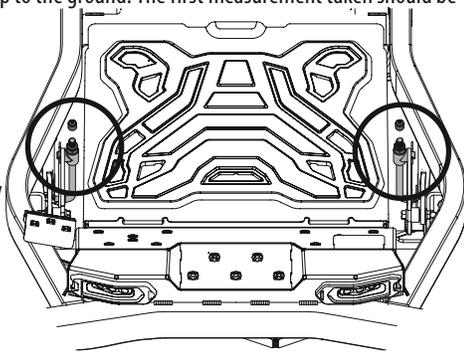

Figure 36
- a. Remove the end cap on both front deck height adjust rods and save for later re-installation. See Figure 36.
- b. Rotate both front nuts clockwise to raise the front deck pitch or counter-clockwise to lower the front deck pitch, depending on the needed adjustment. See Figure 36.